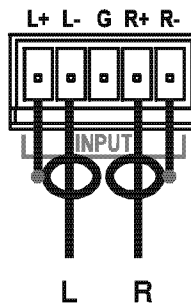

Figure 6: Connecting an Unbalanced VS-3232A Stereo Audio Input
- An unbalanced stereo audio input, see Figure 6